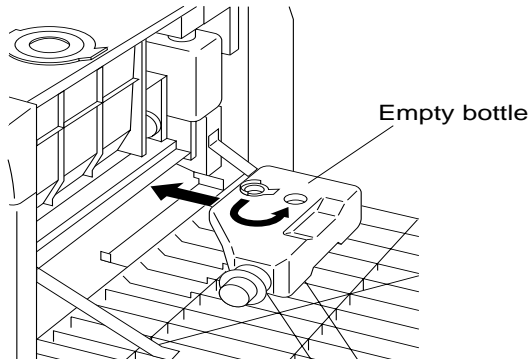

Figure 4-20 Installing Developer Purge Bottle
2. Turn cap around and place in the storage location, as shown in Figure 4-20.